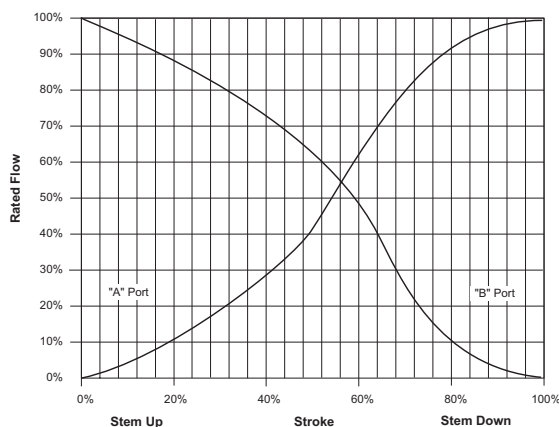

Figure 2 Typical Flow Characteristics.
**3-Way Valves:** 3-way mixing valves are designed so that the flow from either of the inlet ports to the outlet is approximately linear, which means the total flow from the outlet is almost constant over the stroke of the valve stem. See Figure 2 for typical flow characteristics of the VB-731x and VB-931x series valve bodies.